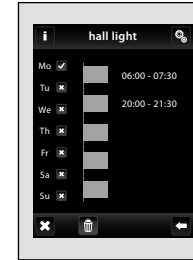
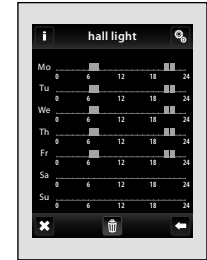

fig. 147
fig. 148
Daily (fig. 147) / Weekly overview (fig. 148) shows the daily / weekly overview of schedule.
To delete a time schedule in the **Daily overview** (fig. 147) indicate the bar want to delete at then press the bin icon  - to delete it. If you do not select any of the programmed bars and press bin icon  you will remove all schedules in the day.
**Weekly overview** (fig. 148) – touch the bin icon  to clear all schedules.